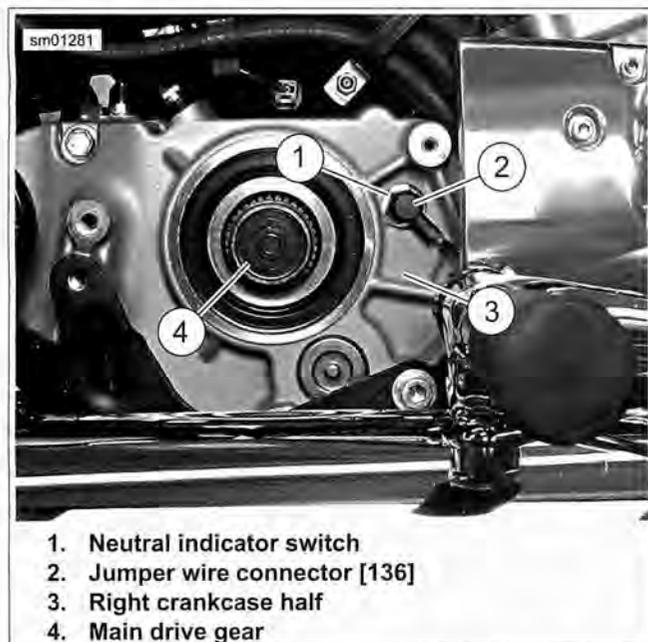

Figure 6-104. Neutral Indicator Switch Location: All Models (XL Shown)
See Figure 6-104. The neutral indicator switch (1) is threaded into the right crankcase half (3) immediately forward of the main drive gear (4). A short jumper wire assembly (2) connects the switch to the harness connector [136] under the engine crankcase.